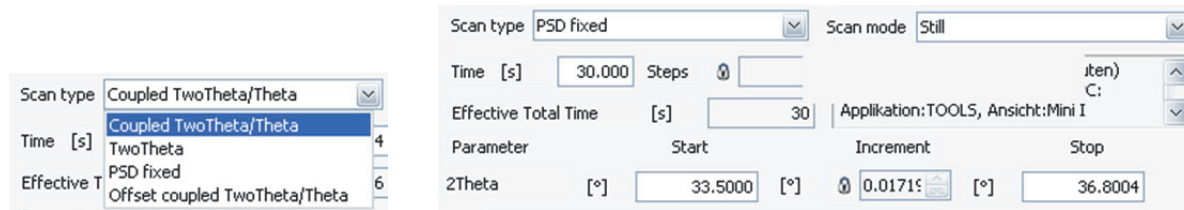
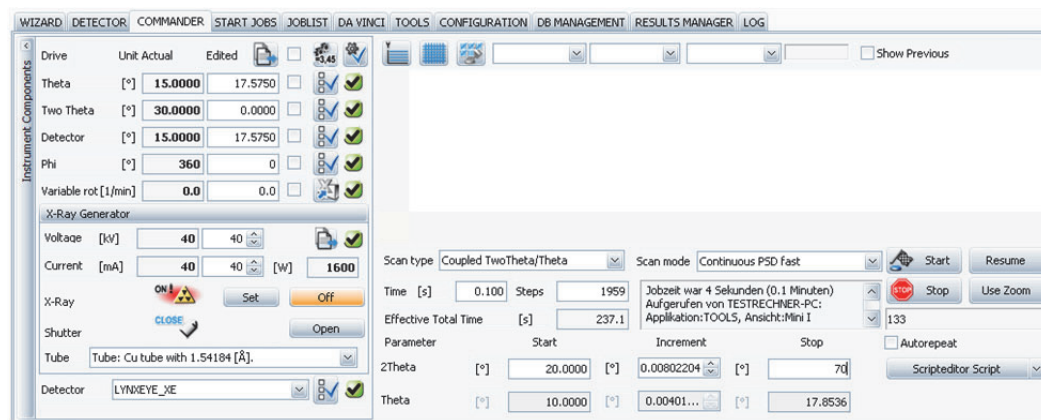

Figure 3.1: A: Drop down menu for 1D-scans, B: Example of measurement parameters for fixed scan
Figure 3.2: Example of measurement parameters for locked coupled scan
The following parameters must be selected prior to running a measurement: scan type, start, stop, speed, and increment (see Figure 3.1 and Figure 3.2). Additional settings may include divergence slit size, rotation of the stage, and generator settings for KV and mA.
2. Figure 3.1 and Figure 3.2 show the location of the parameters for different immediate measurements. The fields show the actual settings for the current measurement.
3. Scan type: Choose the scan type from the drop-down menu, see Figure 3.1 A. You must select LYNXEYE XE as a detector in the selection field before the scans are available.